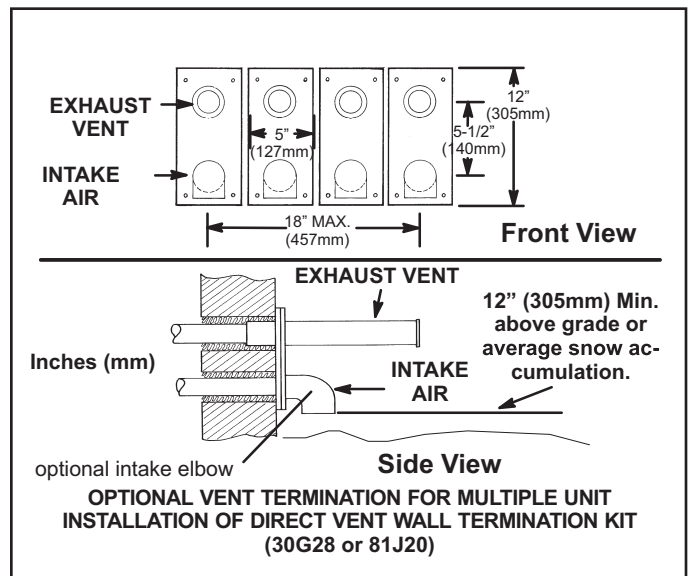

FIGURE 37
- 8 - A multiple furnace installation may use a group of up to four terminations assembled together horizontally. See figure 37.